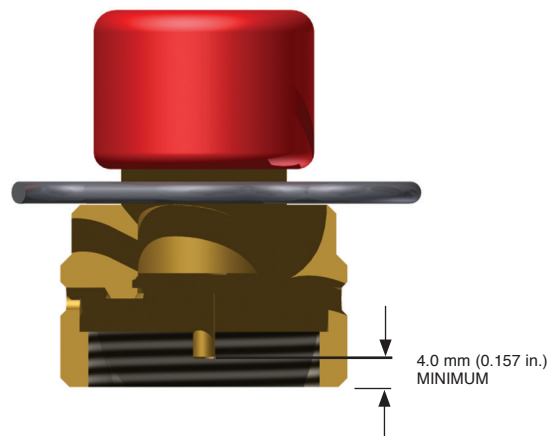

FIGURE 6-29
1. Check that the actuation pin is in the non-fired position. See Figure 6-29.